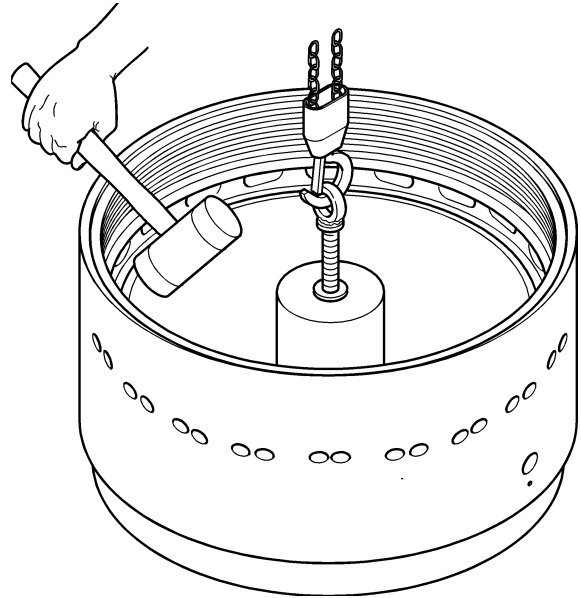

Figure 6.8
- Slightly unscrew the threaded rod until the ram is completely placed on his seat. Could be necessary give some plastic hammer blows on the upper edge of the threaded rod and/or on the upper edge of the ram to make swinging the piece (fig. 6.8).